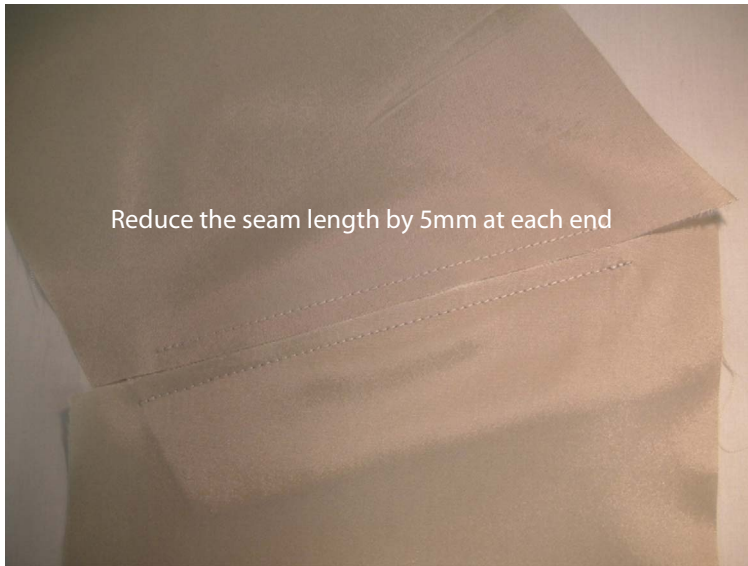

Figure 41
6. Butt the longest pocket bag (BACK) to the edge of the first pocket bag, as shown below, and sew using a 5mm seam width. Reduce the seam length by 5mm at each end. Back-tack at the beginning and end of the seam (see Figure 41).